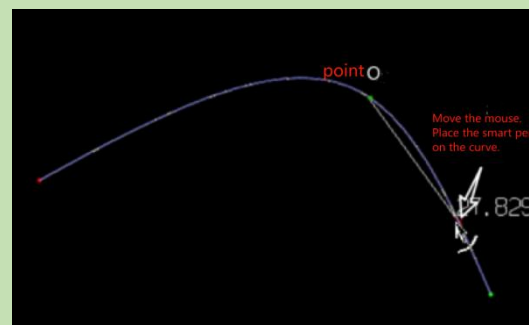

Figure4-28
(2) Move the mouse to a point, line, or anywhere and click the left mouse button to end. (Figure4-28)